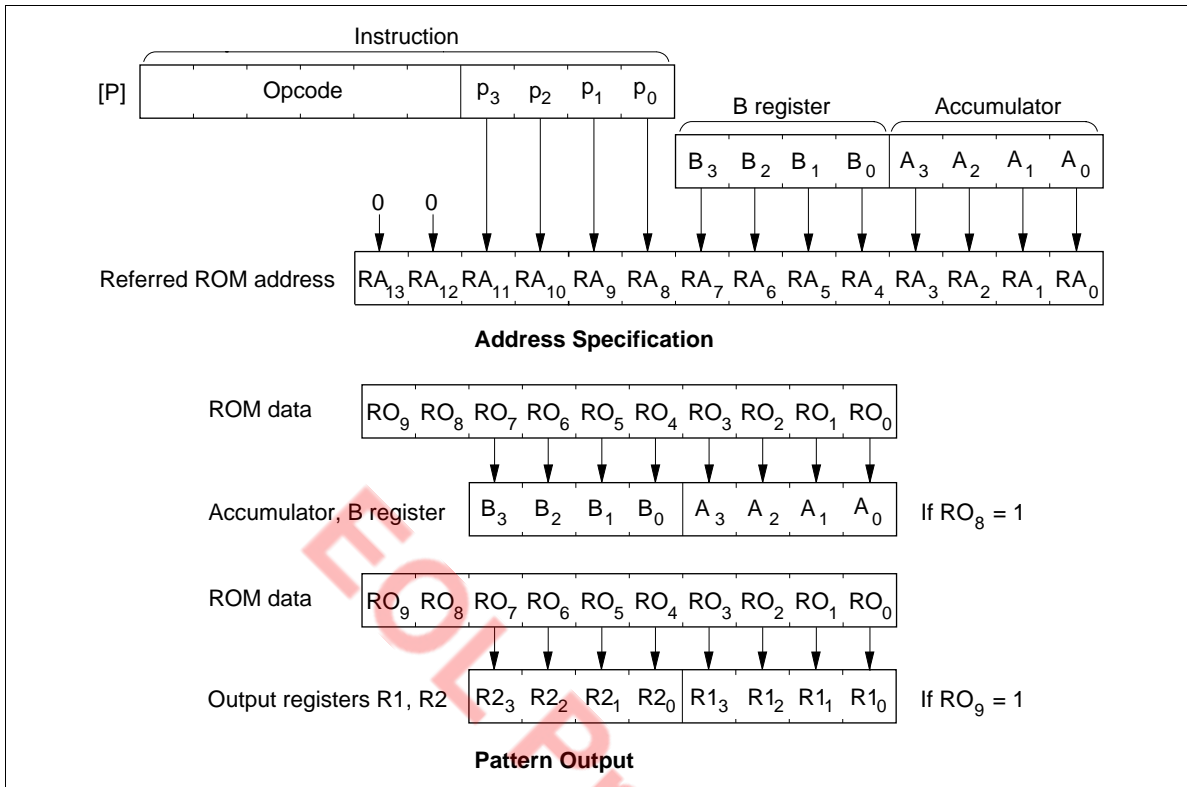

Figure 47 P Instruction
**P Instruction:** ROM data addressed in table data addressing mode can be referenced with the P instruction as shown in figure 47. If bit 8 of the ROM data is 1, eight bits of ROM data are written to the accumulator and the B register. If bit 9 is 1, eight bits of ROM data are written to the R1 and R2 port output registers. If both bits 8 and 9 are 1, ROM data is written to the accumulator and the B register, and also to the R1 and R2 port output registers at the same time.